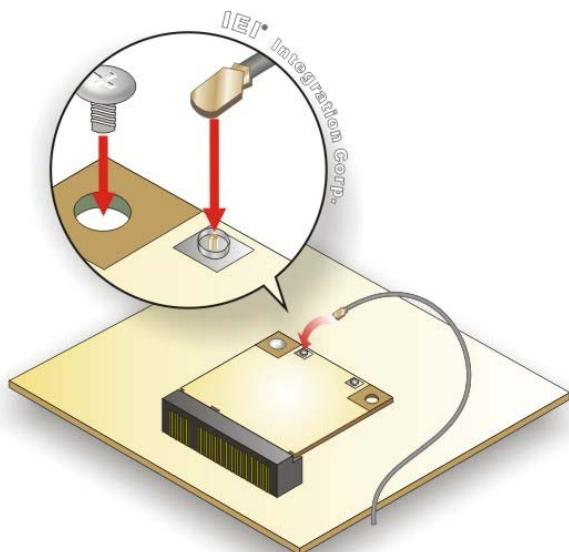

Figure 3-19: Securing WLAN/WWAN Module and Connecting RF Cable
Step 6: Secure the WLAN/WWAN module. Secure the WLAN/WWAN module with the retention screw previously removed (**Figure 3-19**).
Step 7: Connect the RF cable to the antenna connector on the WLAN/WWAN module (**Figure 3-19**).